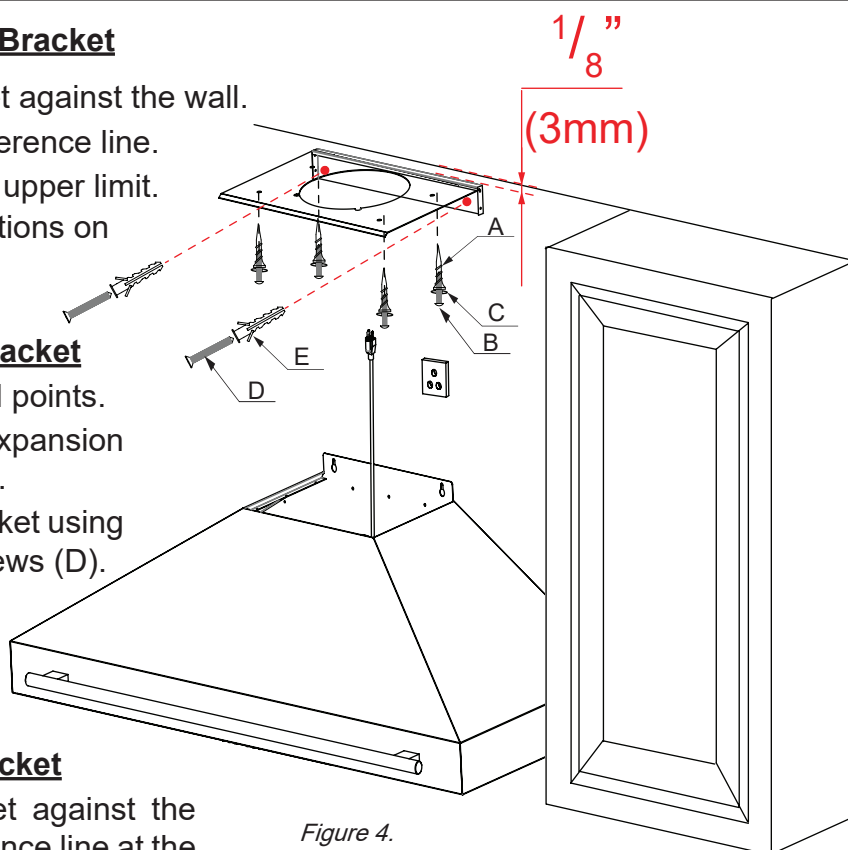

Figure 4.
- Mark the bracket's screw hole locations on the wall. See Figure 4
- Insert the $\Phi 0.236" \times 1.142"$ plastic expansion tubes (E) fully into the drilled holes.
- Secure the chimney mounting bracket using the ST#3.5 $\times 1.18"$ self-drilling screws (D).
- Ensure the bracket is level and firmly attached, as it will support the upper chimney cover. See Figure 4.
- Insert the $\Phi 0.51" \times 1.61"$ spiral plastic expansion anchors (A) fully into the wall.
- Place flat washers (C) over the mounting holes.
- Fasten the bracket using the #6-32 $\times 1-3/8"$ pan head screws (B) through the washers into the anchors.
- Check that the bracket is level and securely fixed. See Figure 4.